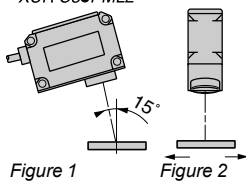

Figure 1
■ To obtain optimal detection of the colours, it is recommended that the sensor be positioned such that the transmitted light beams strikes the object at an angle of 15° from its vertical axis (figure 1).